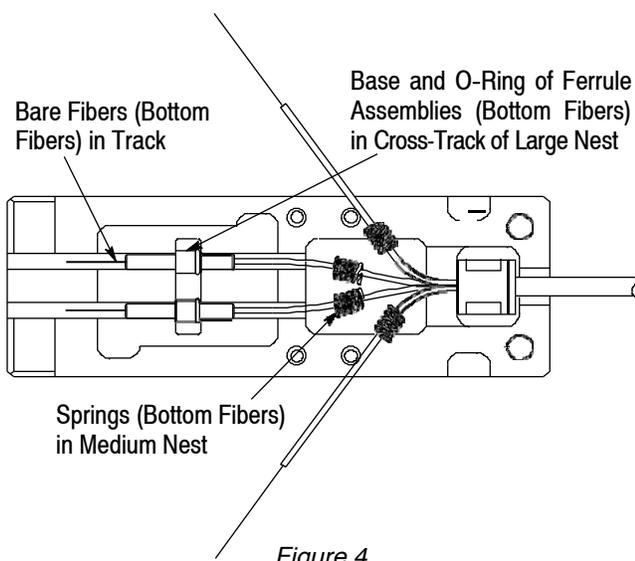

Figure 4
4. Refer to Figure 4, and perform the following for the remaining *bottom* fiber:
5. Repeat Step 4 for the remaining *bottom* fiber. See Figure 4.